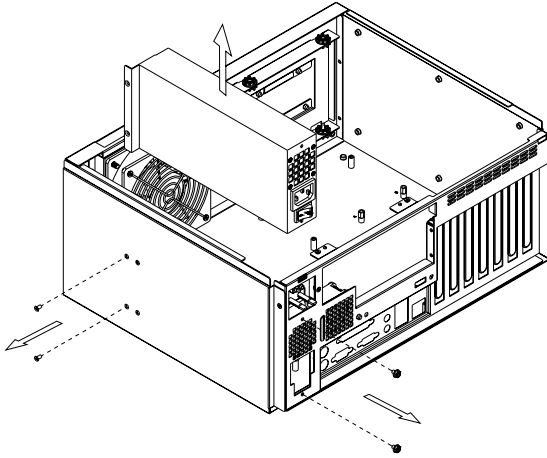

Figure 3.7: Removing the power supply
5. Loosen the two screws on the outside of the chassis on the left side, along with the two screws on the front of the chassis. Then take out the power supply. (see *Figure 3.7*)